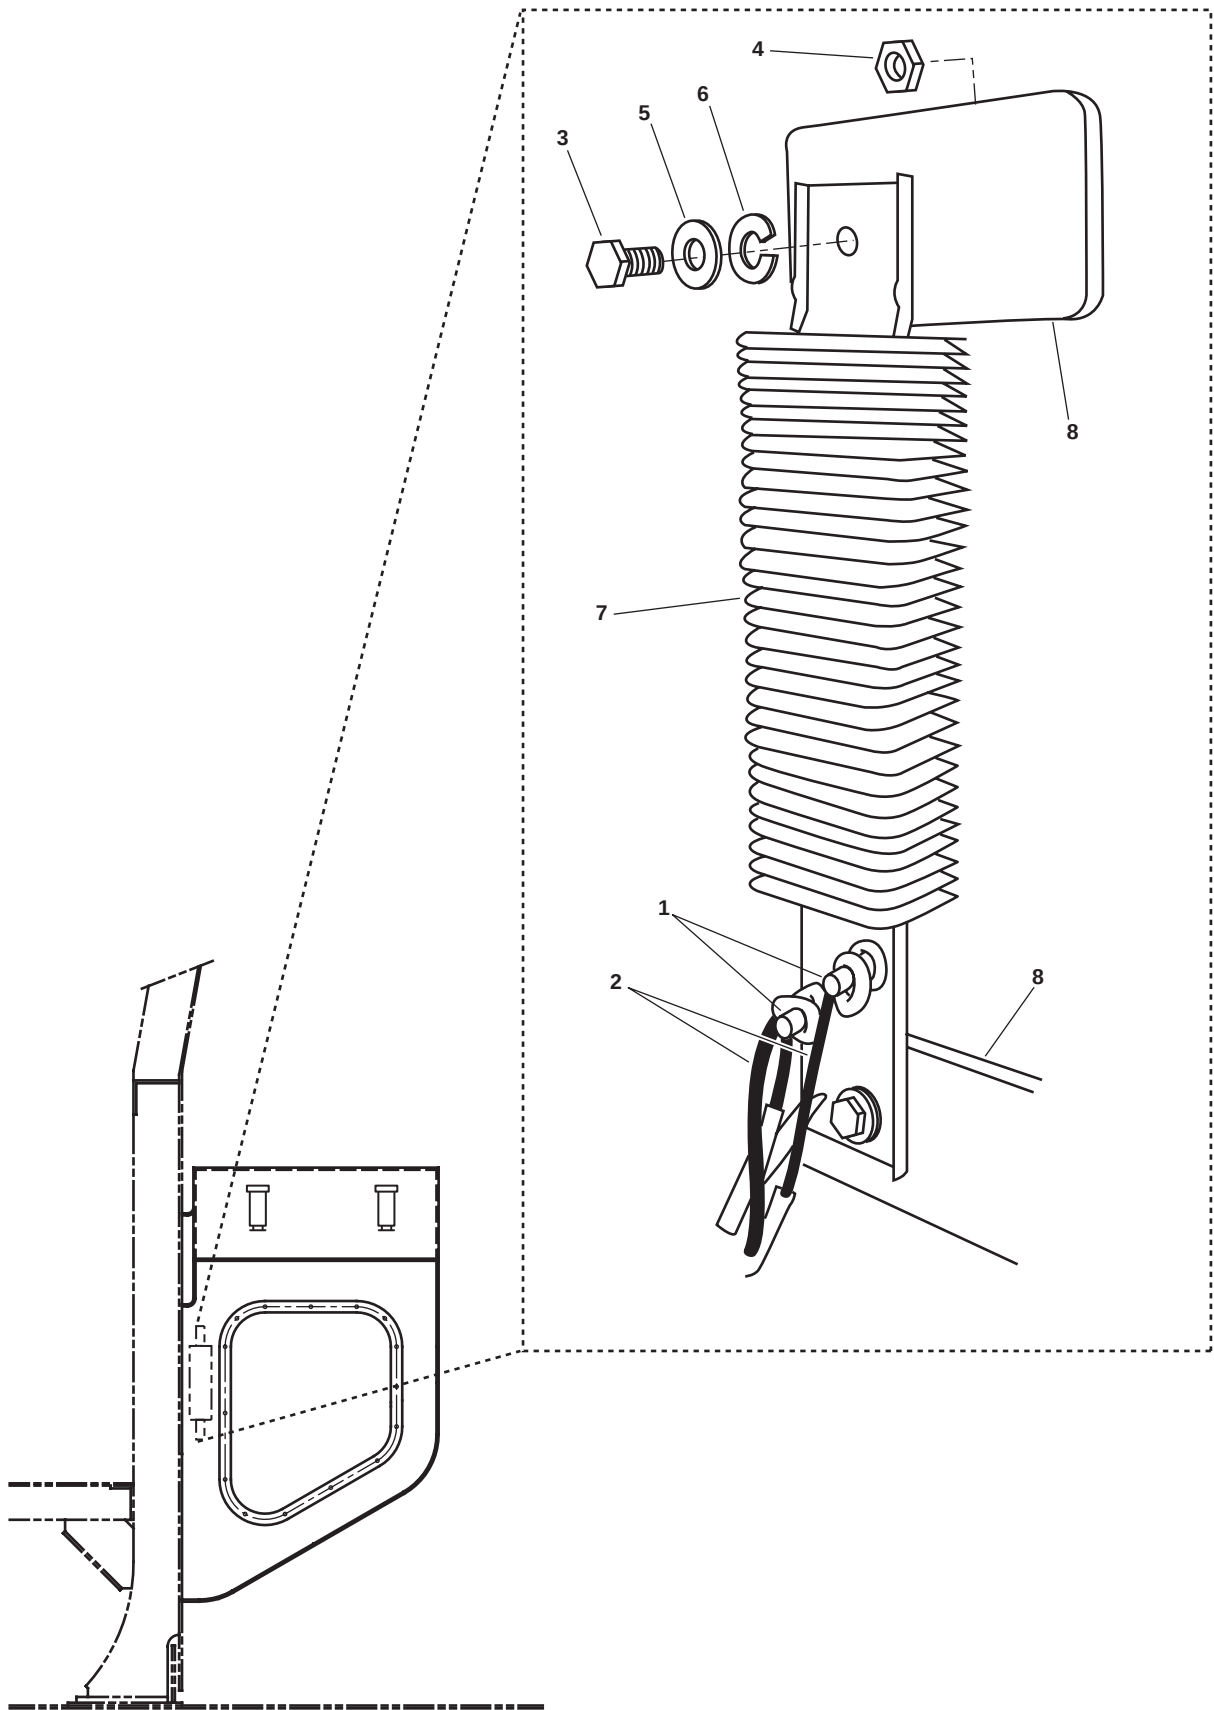

Figure 6. Pilothouse Wing Console Heater
4. Use a multimeter to check for available voltage at the heater wiring terminals (figure 6, item 1). If voltage is present, ensure that the proper fuses are removed, locked out, and tagged out (FM 55-502). If no voltage is present, continue with the procedure.
5. Label and disconnect the heater wiring (figure 6, item 2) at the terminals (figure 6, item 1).
6. Remove the two bolts (figure 6, item 3), two nuts (figure 6, item 4), two flat washers (figure 6, item 5), and two lockwashers (figure 6, item 6) that secure the heater element (figure 6, item 7) to its mounts (figure 6, item 8). Remove the heater element from its mounts and discard the lockwashers.
1. Position the heater element (figure 6, item 7) on its mounts (figure 6, item 8) and secure it with the two nuts (figure 6, item 4), two flat washers (figure 6, item 5), and two new lockwashers (figure 6, item 6).
2. Connect the heater wiring (figure 6, item 2) to the terminals (figure 6, item 1). Removal the labels installed during removal.